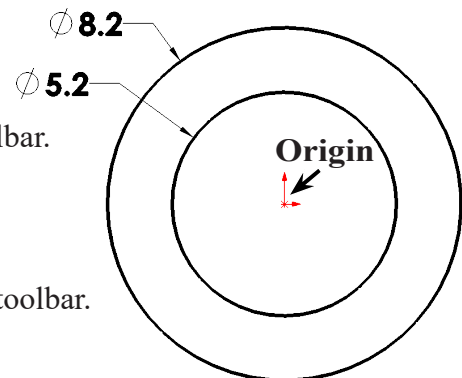

Fig. 2
Step 3. Click **Circle**  (S) on the Sketch toolbar.
Step 4. Sketch **two circles at the Origin** , **Fig. 2**.
Step 5. Click **Smart Dimension**  (S) on the Sketch toolbar.
Step 6. Dimension circle **diameters 8.2 and 5.2**, **Fig. 2**.